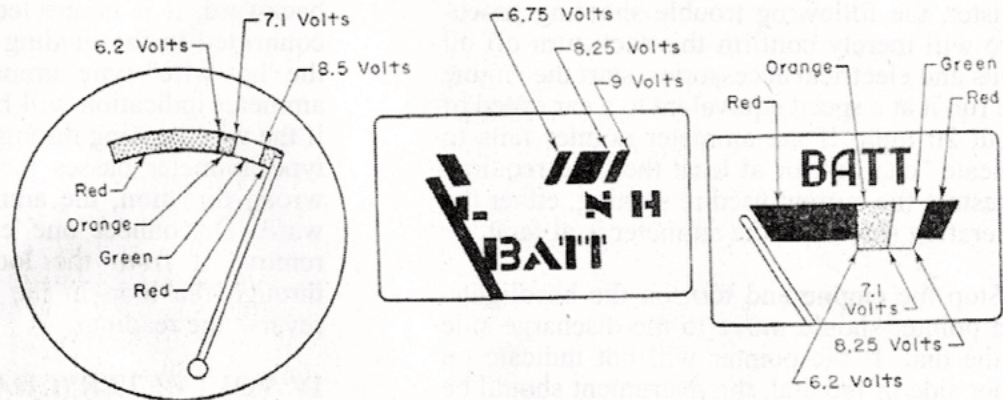

Fig. 11. Typical Voltmeter (Battery Gauge) Dials
11. The actual voltages are not shown on the dial of the instrument. The colored sectors, or the letters "L," "N," and "H," indicate low, normal, and high voltage readings. The actual voltages at various sectors of the dial, however, are shown in Fig. 11.